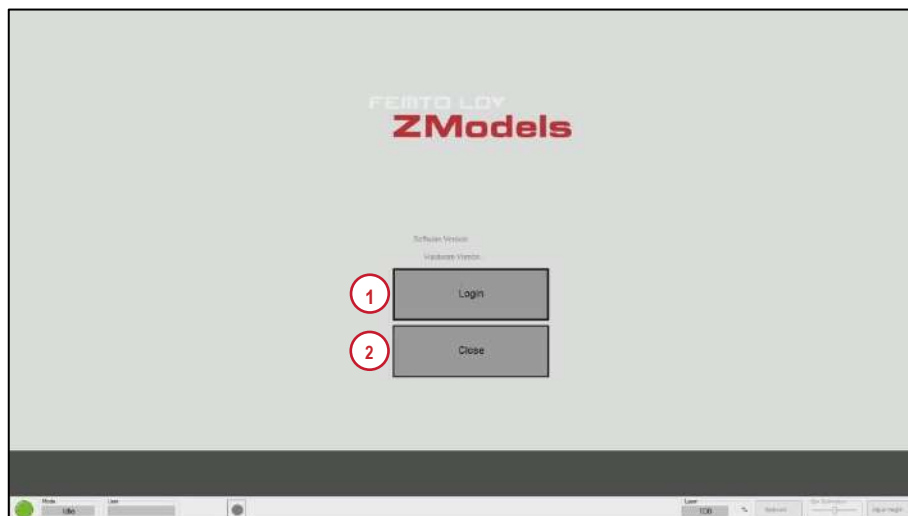

Figure 13: Start screen.
- 1 Click on the **Next** button when active (time remaining = 0 seconds), to proceed to the “Start” screen of the Cornea SW Application (Figure 13).